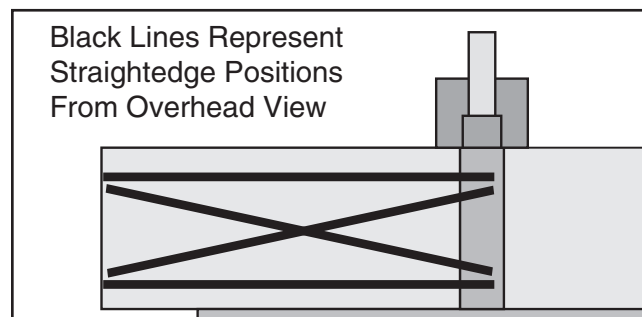

Figure 51. Straightedge positions for verifying if outfeed table is parallel with cutterhead.
5. Place straightedge in positions shown in **Figure 51**. In each position, straightedge should touch cutterhead and sit flat on outfeed table.